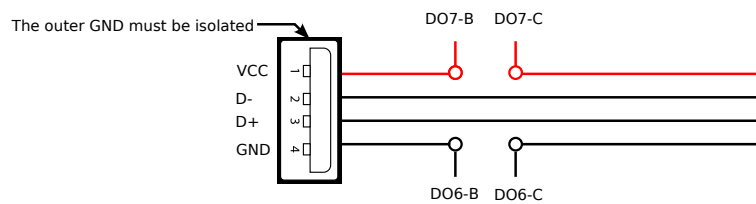

Figure 34: Modified USB cable
- modified USB cable for USB-CAN (see Figure 34) so that GND and VCC wires will switched through relays and the outer GND is also isolated